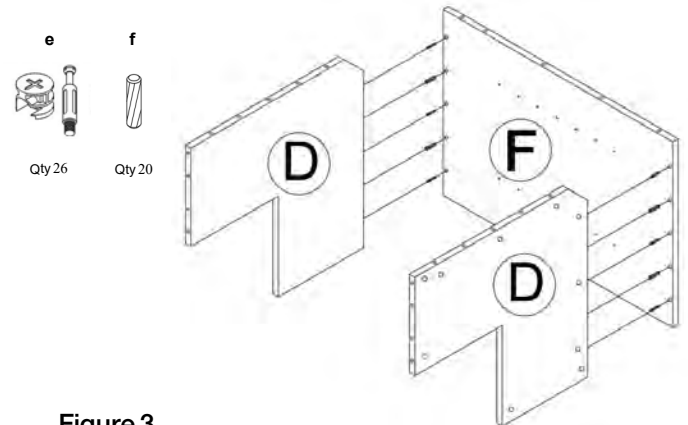

Figure 3
3.Install metal male cam locks (e) into designated holes on side panel (C) and bottom panel (D). Use screwdriver to tighten. Install the wooden dowels (f) into designated holes. (Figure 3)
4.Install the Top & Bottom panels (D) onto back panel (F). (Figure 3)